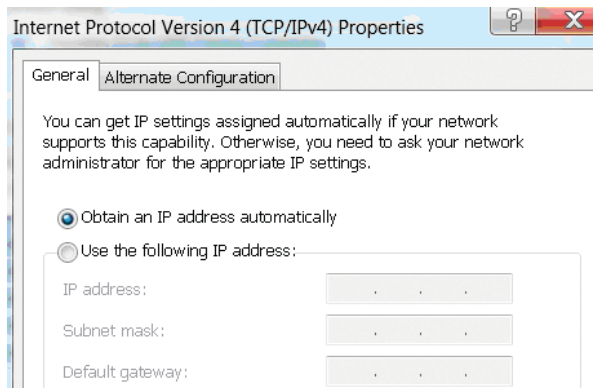

Figure 9-6
- a. The system has an IP that was automatically assigned by a DHCP server. In this case, the Properties screen appears like Figure 9-6, and the IP address is automatically assigned.